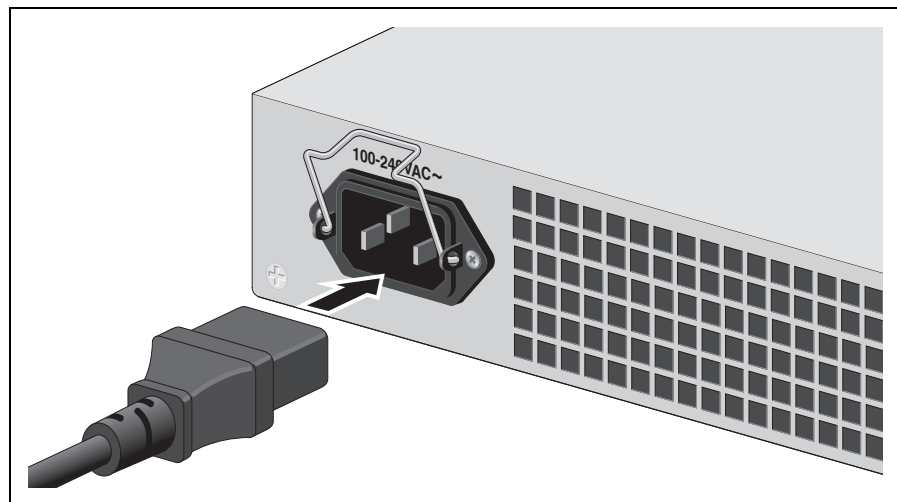

Figure 47. Connecting the AC Power Cord
2. Plug the power cord into the AC power connector on the rear panel of the unit (see Figure 47).